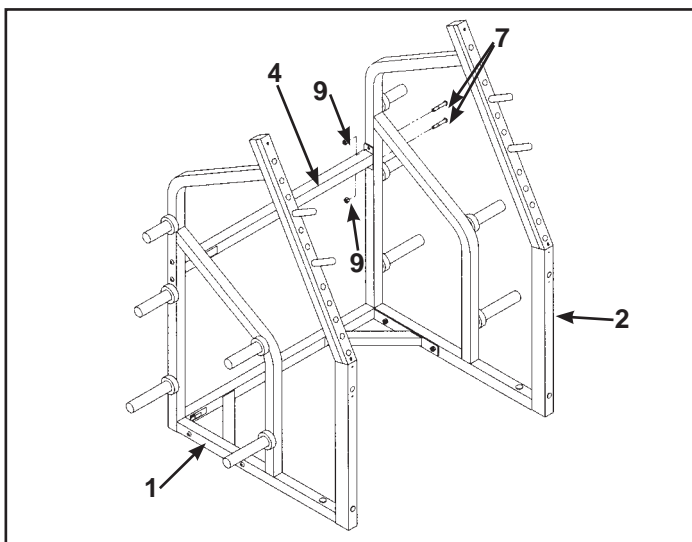

Figure 6
- D. Repeat Steps 5B and 5C to attach other side. See Figure 6. Securely tighten all hardware at this time.